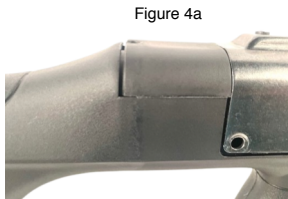
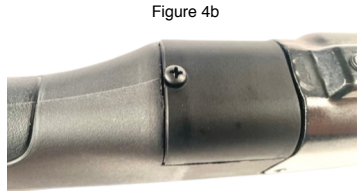

Figure 4a
Figure 4b
Take the receiver cover (#1) and install behind the receiver as seen in (Figure 4a). Using the provided 6x48/2 x 1/2" phillips head screw (9) and a phillips head screw driver, tighten the receiver cover as seen in (Figure 4b).